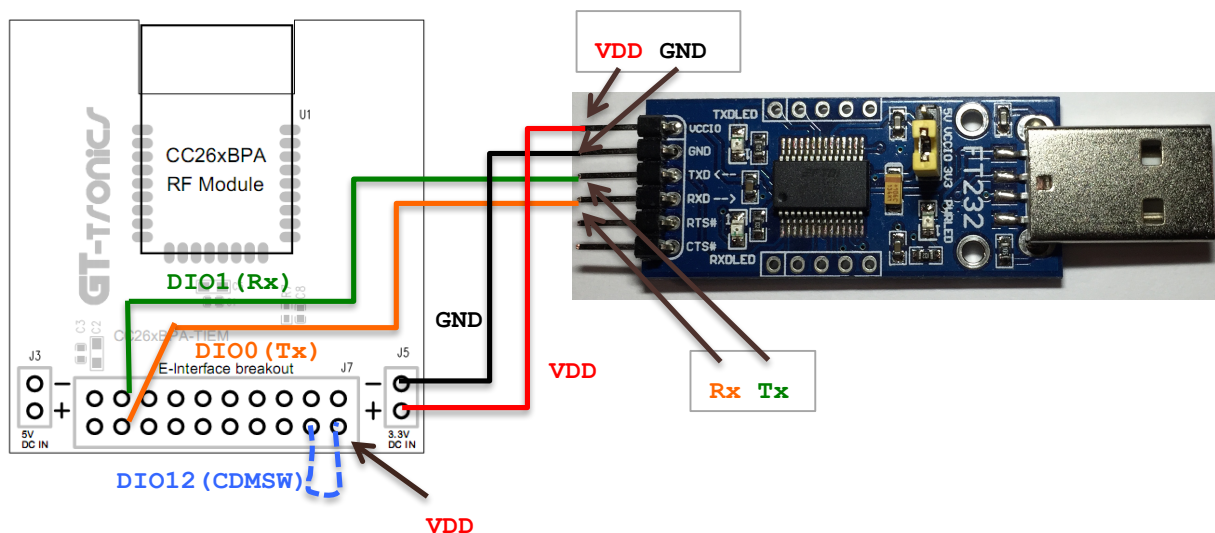

Figure 1 Connect The Wire Diagram
The Blue wire in Figure 1 is used to toggle the CDMSW pin. When DIO12 is connected to VDD, it run in CLI mode. When DIO12 is opened, it runs in data mode. There should be notification of “+CMDM” and “+DATM” popped up on the terminal while toggle the blue wire.
1. Connect the blue wire according to Figure 1